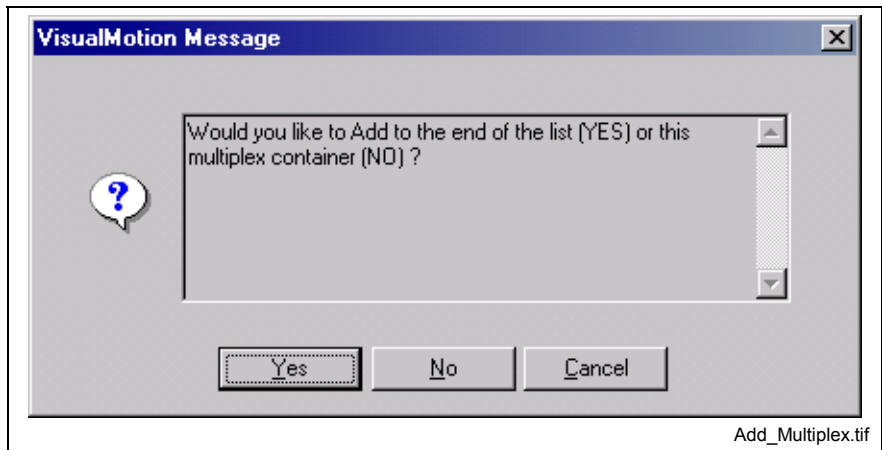

Fig. 7-140: Add Item or Multiplex Item Window
- Click **Add**. The window in Fig. 7-140 below appears. Because it is unclear whether you would like to add to the list or to the multiplex container, the Fieldbus Mapper is requesting clarification.